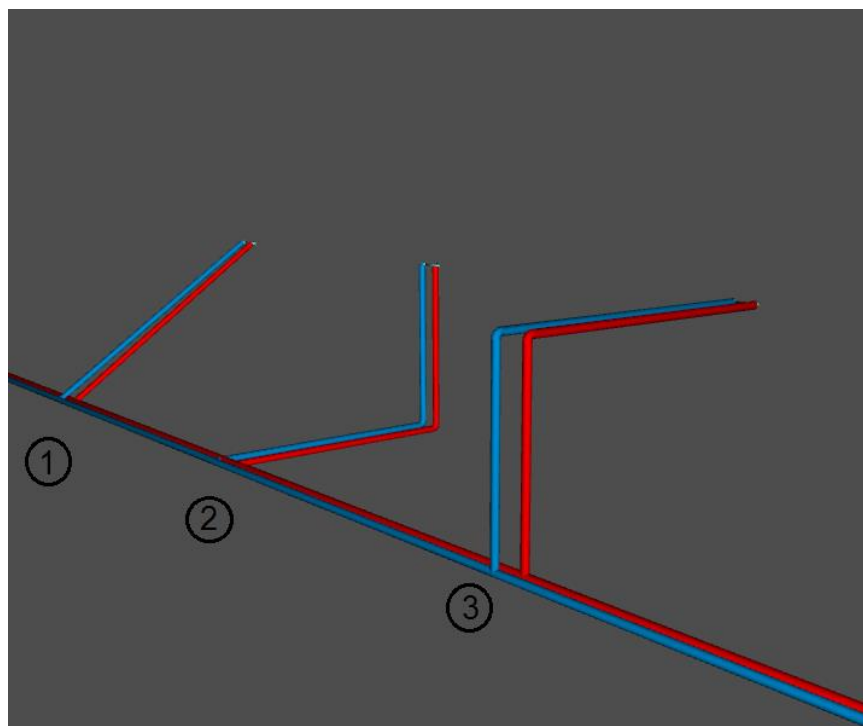

Fig. 94. 3D view wizard connection methods
**Direct connection (with resulting slope)** –  – the wizard will automatically connect the selected draw-off fitting with the pipelines. The connection will be executed at a straight angle with a single pipeline section directly from e.g. a draw-off valve to the selected pipeline located closest to the fitting (Fig. 94, Connection 1).
**Vertical connection from point** –  – the wizard will automatically connect the selected draw-off fitting with the pipelines. The connection is created by means of two pipeline sections: a vertical section between the water outlet up to the installation height of the selected pipeline and then by means of a horizontal section perpendicular to the selected pipeline (Fig. 94, connection 2).
**Horizontal connection from point** –  – the wizard will automatically connect the selected draw-off fitting with the pipelines. The connection will be executed by means of two pipeline sections: a horizontal section from the water outlet perpendicular to the point where the vertical section will be routed to the selected pipeline (Fig. 94, connection 3).